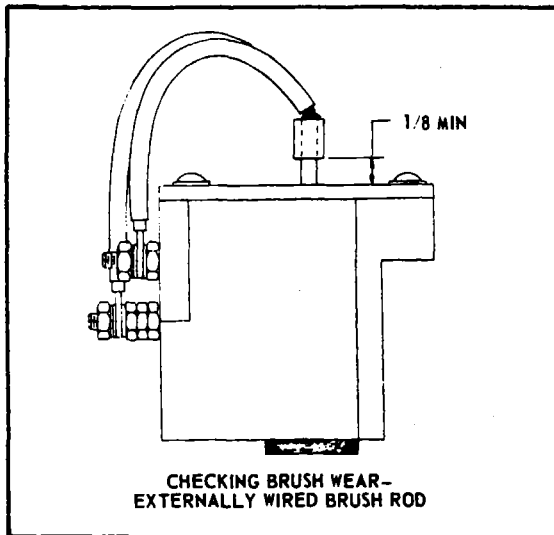

Figure 14-13. Determining Brush Wear
e. Check for damaged brush rods, springs or for worn or damaged brushes. Refer to Figure 14-13 or 14-14 as applicable, to determine brush wear.